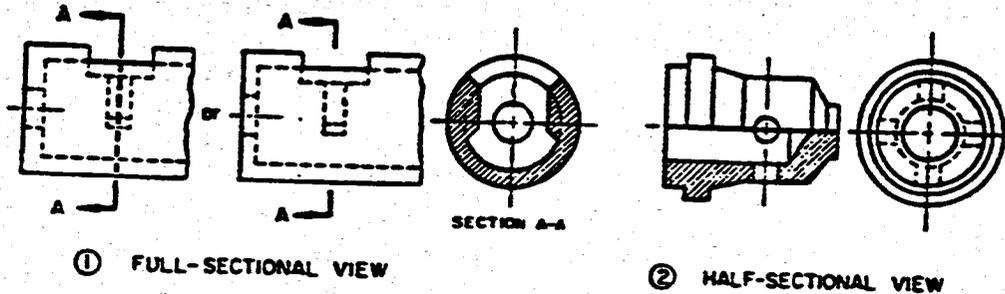

Fig 1-25. Full and half-sectional views.
- (1) Full-sections. When the cutting plane is a single continuous plane passing entirely through the object, the resulting view is called a full-section, view 1 figure 1-25. The cutting plane is usually made straight through on the main axis or center line.
- (2) Half-sections. The cutting plane will not always be made completely through the object. You will notice that view 2, figure 1-25 shows a half-section. The cutting plane passes only halfway through the object. This is common practice for symmetrical objects. In the case illustrated, the top half, if sectioned, would be identical to the bottom half, providing no additional information. The half-section permits both the internal and external features to be shown as well as their relationship to one another.